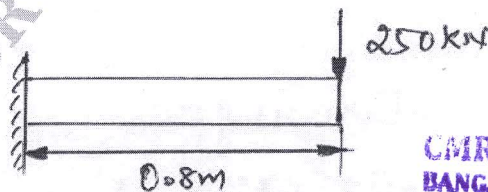

Fig.Q6(a)
- 6 a. A cantilever beam subjected to point load of  $250\text{ kN}$  as shown in Fig.Q6(a). Determine the deflection at the free end and the support reactions. Take  $E = 200\text{GPa}$ ,  $I = 4 \times 10^6 \text{mm}^4$ . (10 Marks)